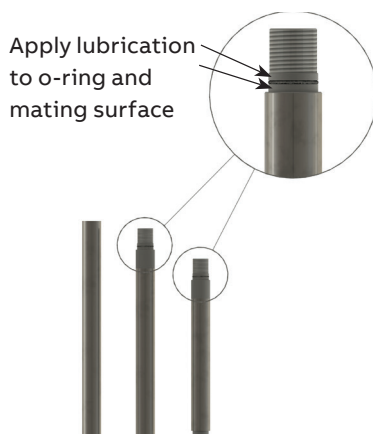

Figure 8 W7 Well Threaded Connection
- 1 Prepare section joints by lubricating the O-ring and mating surface of male threaded portion (Figure 8). For detail refer to “LMT100 PROBE TYPE W7” in Section 11 “Dimensional drawings”